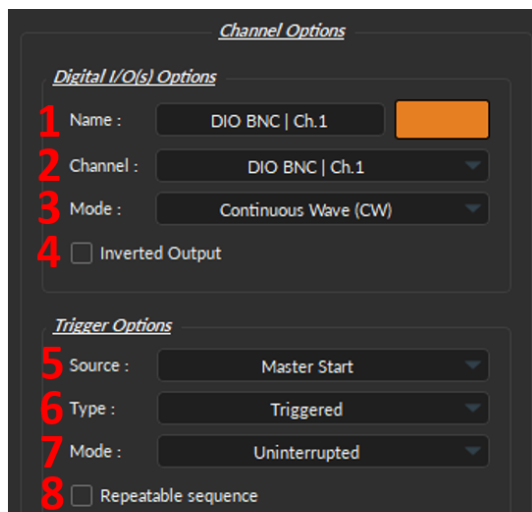
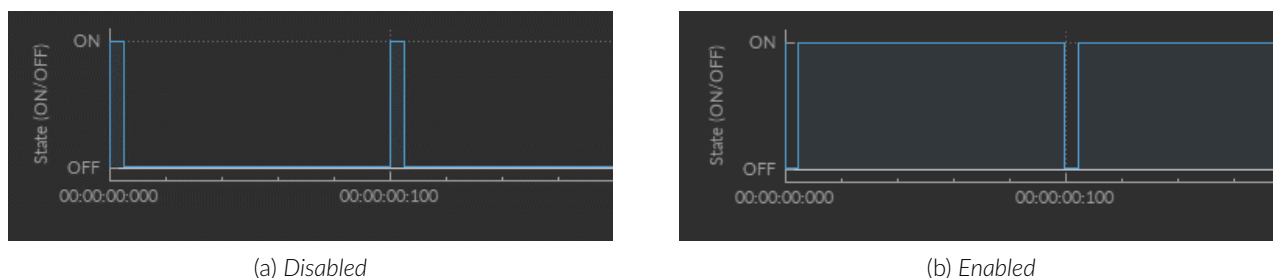

Figure 10.24: Digital I/O, Channel Options
Figure 10.26: *Inverted Output*
1. The **Channel Name** textbox (Fig. 10.24, 1) is used to give the new channel a more intuitive / experiment-relevant label. The **Channel Name** is used in the **Graph List** to identify the channel. And the **Color Selector** specifies the trace color used for the channel in the **Graph View**.
2. The **Channel** (Fig. 10.24, 2) identifies the channels available to create a Digital I/O. The channel can be changed by selecting a new one from the drop-down list. Each numbered channel on the physical BBC300 corresponds to the same number of the digital channel within the software.
3. The **Mode** (Fig. 10.24, 3) identifies the type of signal sent (for output channels) or the way the signal is measured (for input channels). Three modes are available:
4. The **Inverted Output** checkbox (Fig. 10.24, 4), when enabled, will convert every 0 to 1 and 1 to 0, such as in Fig. 10.26.
5. The **Source** trigger option (Fig. 10.24, 5) specifies the element that will set off the digital output. Two options are available:
6. The **Type** (Fig. 10.24, 6) defines how the trigger activates a sequence. This includes input sequences, which can be triggered/gated by an outside source.
7. The **Mode** (Fig. 10.24, 7) defines how the sequence will run if a second TTL pulse is received before the sequence ends. This includes input sequences, which can be triggered/gated by an outside source. Four options are available:
8. The **Repeatable sequence** checkbox (Fig. 10.24, 8), when enabled, will run the sequence when additional TTL pulses are received (Fig. 10.28).
The parameters contained in the **Sequence Options** depend on the **Channel Mode** (selected in **Channel Options**, Fig. 10.24), as following: